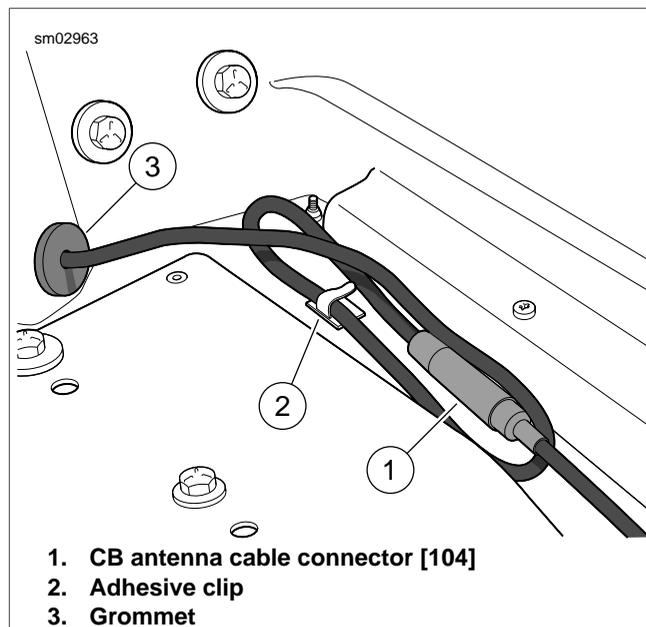

Figure 8-126. CB Antenna Cable Connector [104]
9. Disconnect CB antenna cable connector [104]. Release cable from front adhesive clip at bottom of Tour-Pak. See Figure 8-126.